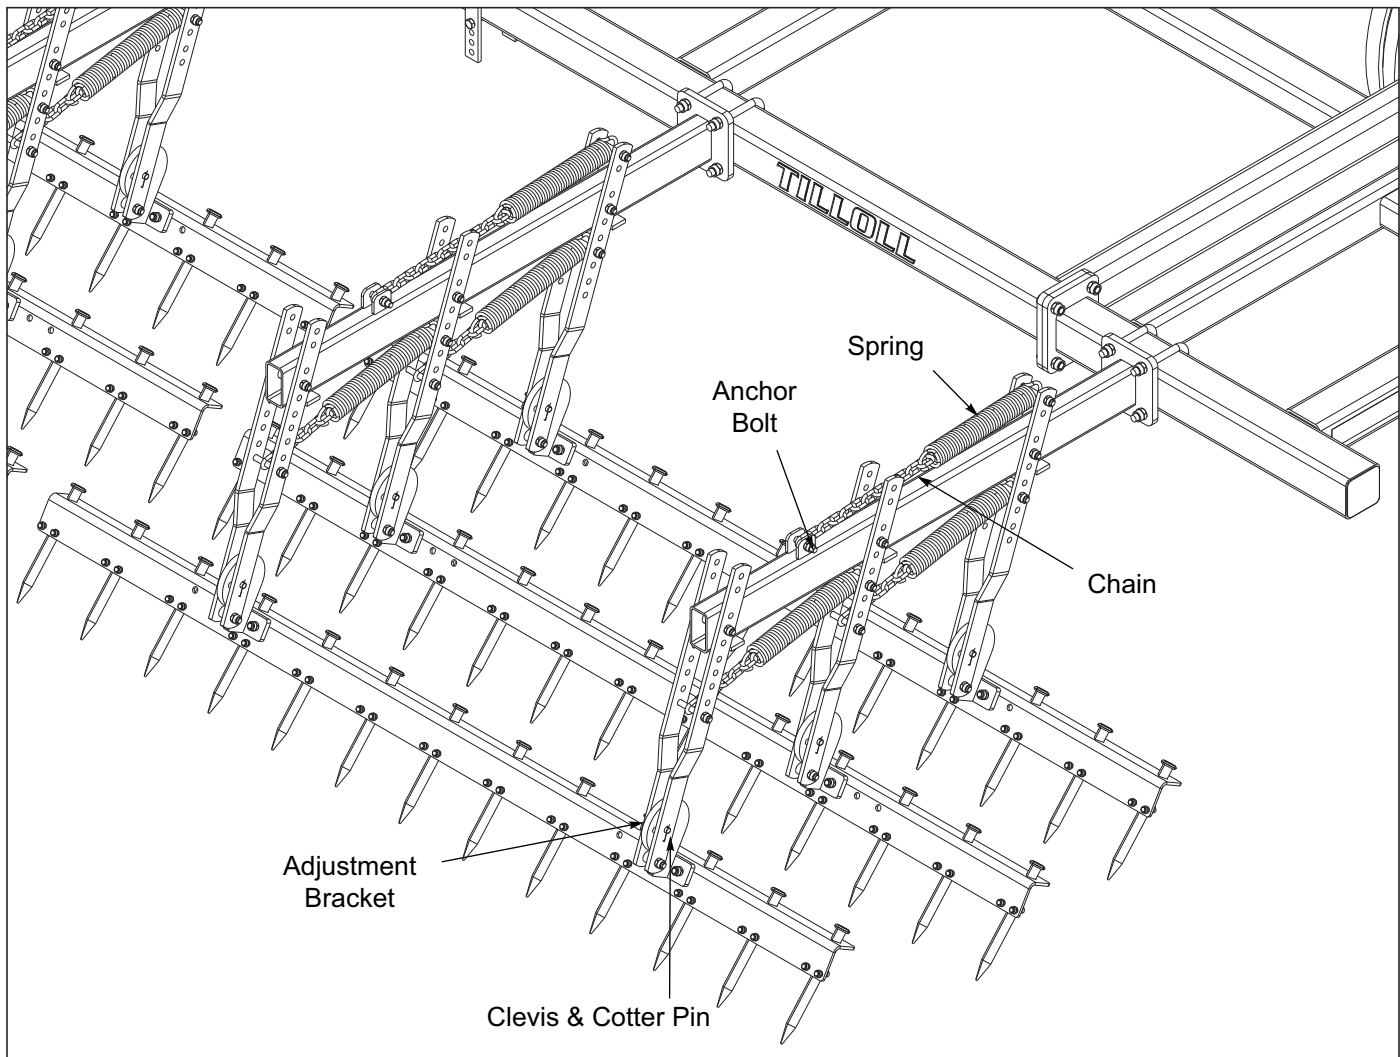

Figure 4-8: Harrow Adjustment
1. The harrow on the rear of the machine can be set for a variety of field conditions *See Figure 4-8*. The harrow that is set up according to the assembly instructions for a working depth of 3 - 5 inches.